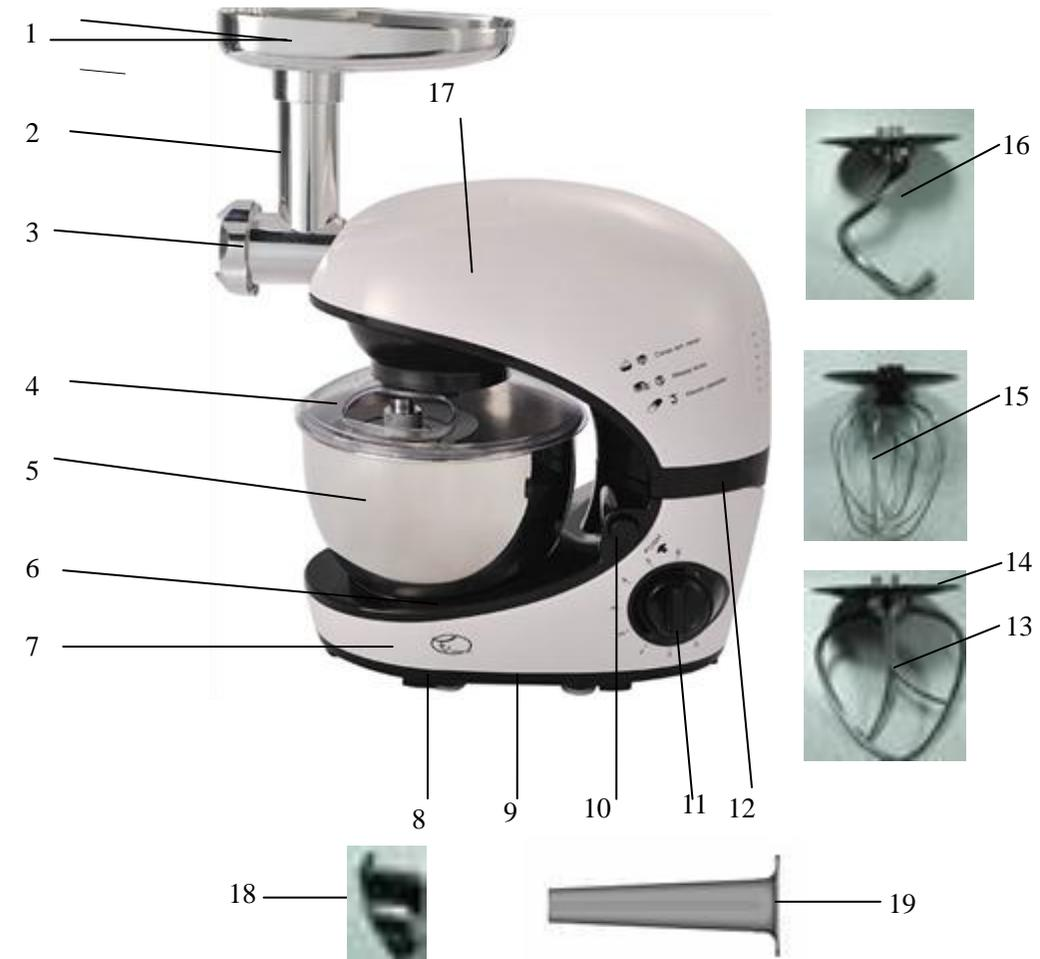

Fig. 1 Overview of components and controls
3. Make sure that the voltage shown on the rating label corresponds with that of the mains supply. The rating label can be found on the bottom of the motor block. Before you connect the multifunctional stand mixer to the 220V AC main supply, make sure this appliance is switched off (Fig. 1 Knob 10 and 11 in the "0" setting).